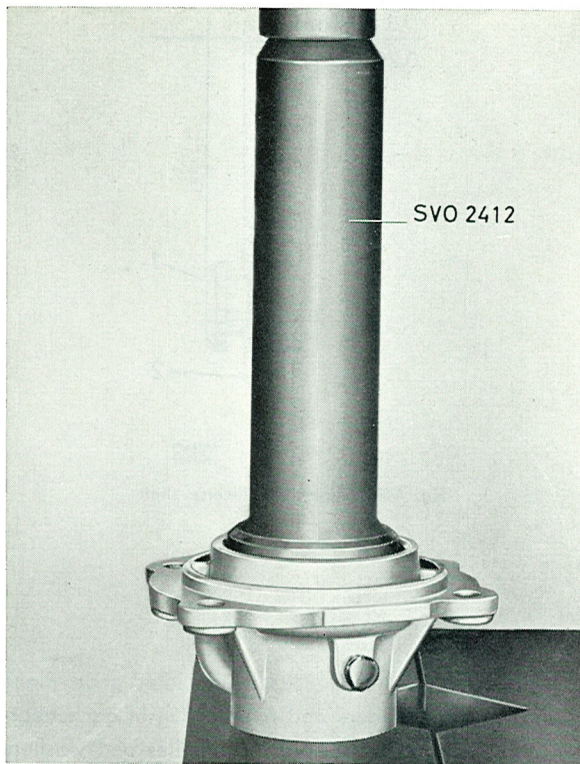

Fig. 4-33. Fitting the ball bearing in rear cover
1. Press the ball bearing into the rear cover, see Fig. 4-33, and fit the circlip. There are different thicknesses of circlips, so select one which fits snugly into the groove.